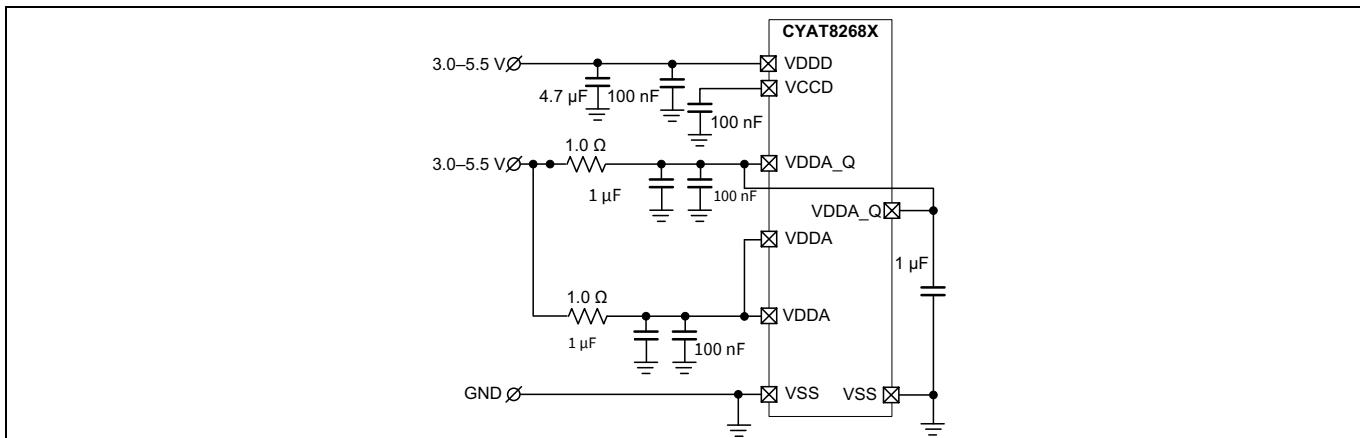
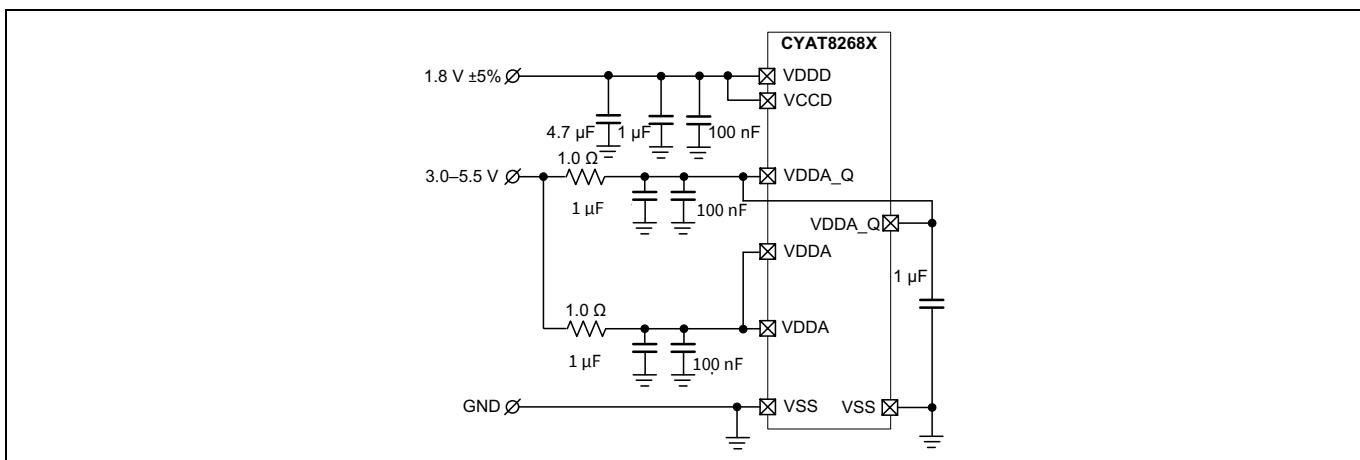

Figure 3 **Dual supplies (no 1.8 V)**
Figure 4 **Dual supplies (inc. 1.8 V)**
- 1- μ F capacitor if VCCD and VDDD are connected (shown in Figure 3 and Figure 4) or 0.1- μ F capacitor if VDDD \geq 3.0 V.
- 1- μ F capacitor if VCCD and VDDD are connected (shown in Figure 3 and Figure 4)